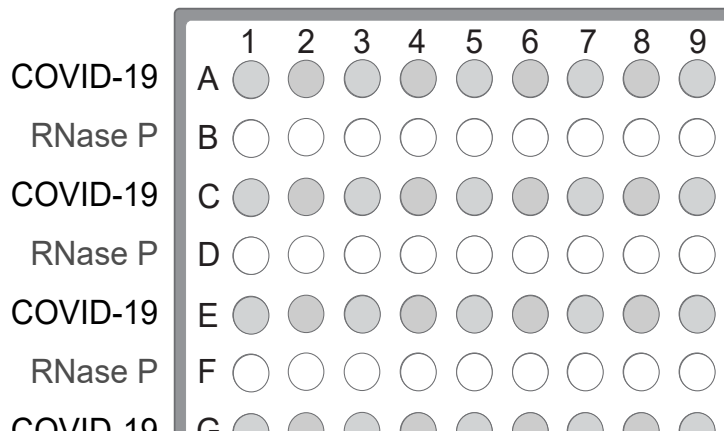

Figure 3 Assays in alternating plate rows
- a. Starting with row A, pipet 10.0 μ L per well of the COVID-19 Reaction Mix into every other row of a MicroAmp™ Optical 384-Well Reaction Plate with Barcode. See Figure 3 on page 59. A MicroAmp™ Optical 384-Well Reaction Plate can be used (see “Required materials not supplied” on page 13).